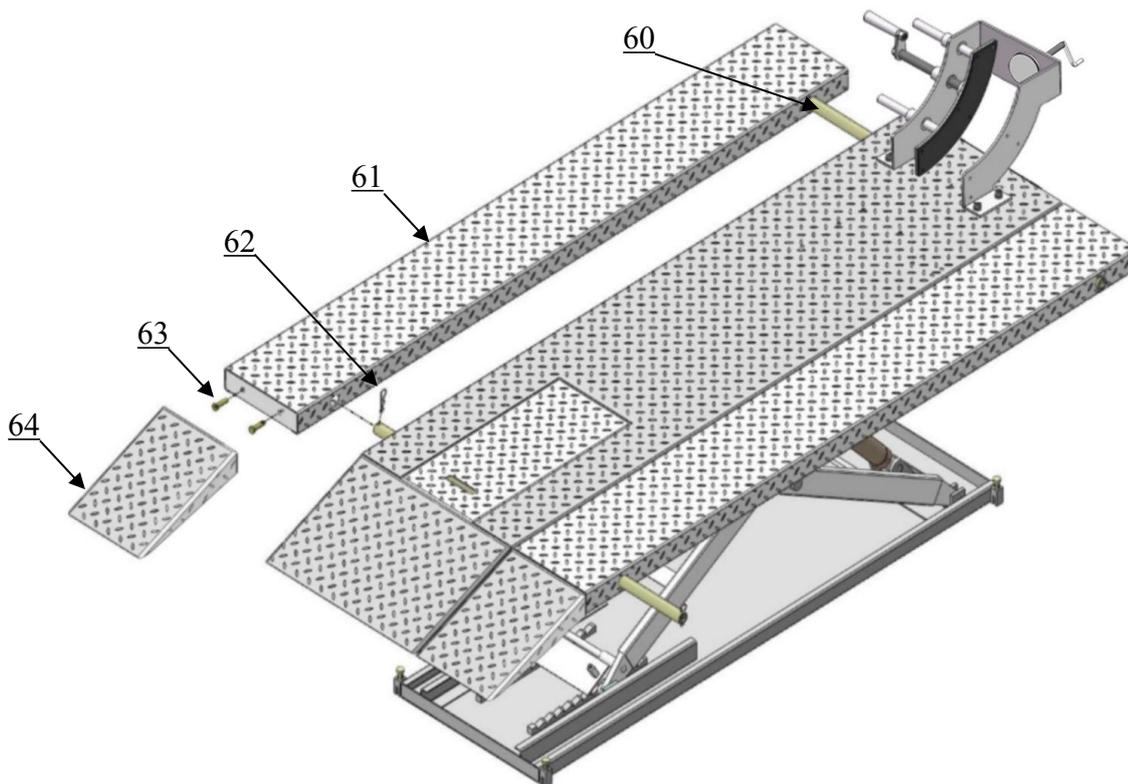

Fig.8
D. Install Optional Width Extension Kit(MC001). See Fig.8